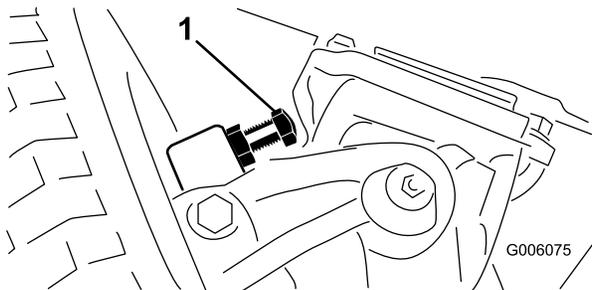

Figure 60
1. Thread the bolts in or out until the .23 cm (.090 inch) clearance is attained (Figure 60).